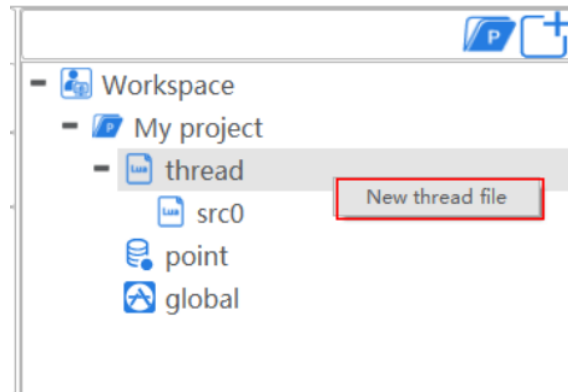

Figure 1.38 Create a project
Step 3 Set the number of threads based on site requirements, as shown in Figure 1.38. Right-click **thread** and click **New thread file**.